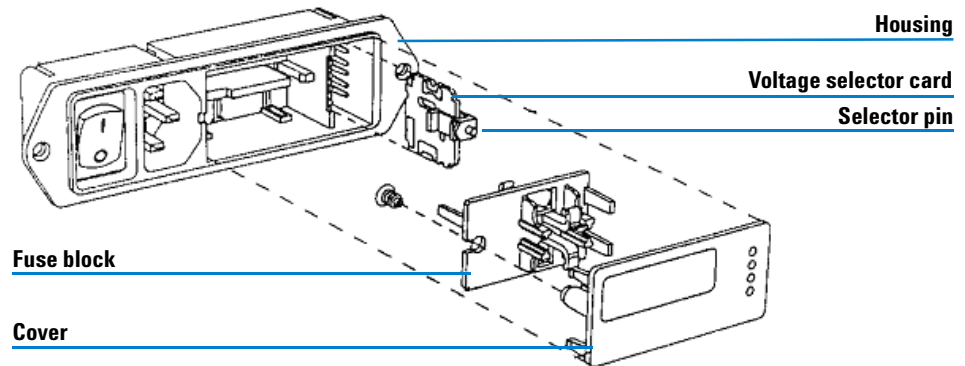

Figure 15 Fuse-block assembly
- 3 Grasp the voltage selector card (not the indicator pin which is attached to it) using needle-nosed pliers and remove it from the housing (see Figure 15).